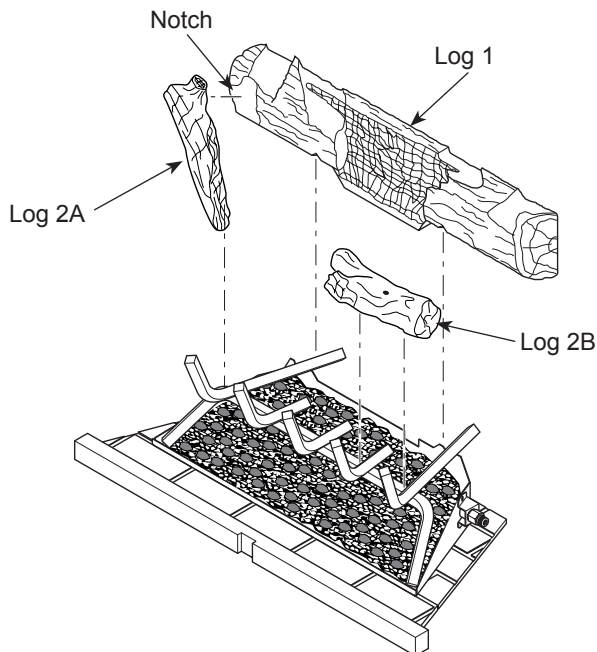

Figure 26 - Installing Logs 1, 2A and 2B
1. Place large back log (log 1) onto grate making sure notches rest over grate (see **Figure 26**).
2. Insert lower end of log 2A between first two grate fingers and position upper end into notch on front of log 1. See **Figure 26**. Place log 2B on front right side of grate as shown in **Figure 26**.